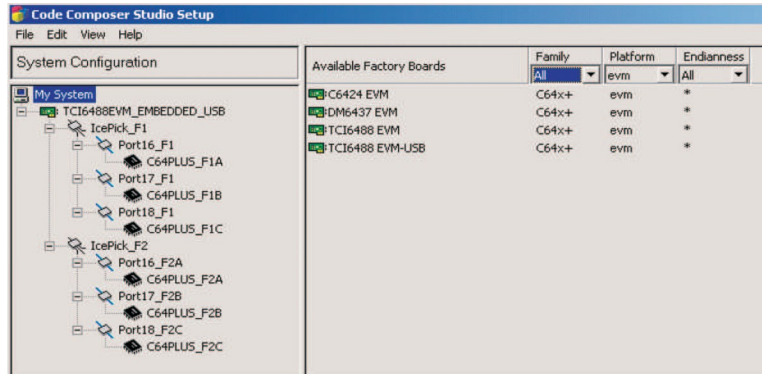

Figure 3. Code Composer Studio Setup for C6474 EVM
5. Choose Debug → Run from the PDM. All three cores will start running at the same time. After 5-10 seconds, the Message Log should start displaying messages similar to Figure 3.